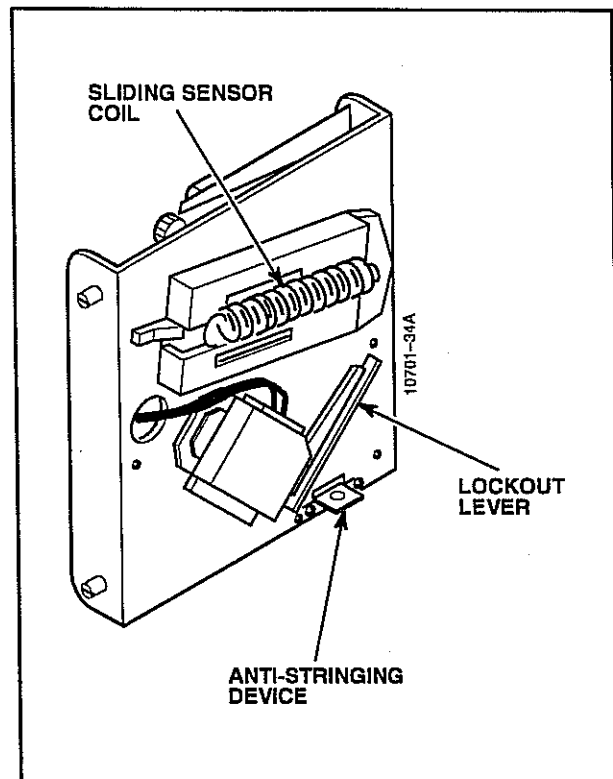

Figure 5-11. Comparator - Back View.
4. Refer to Figure 5-11 to remove the extension spring on the back of the comparator from the metal bracket on the sensor coil.